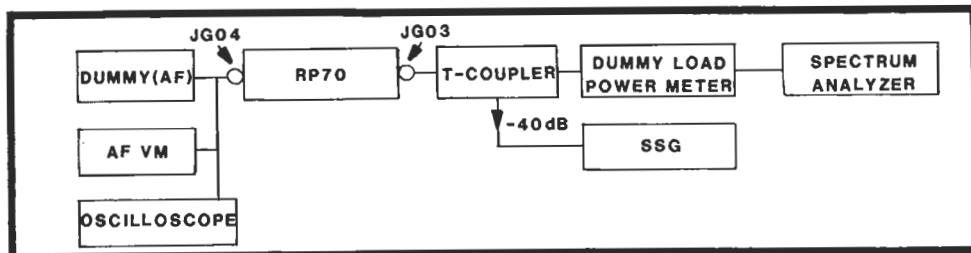

FIGURE 13. DUPLEXER TEST SETUP
23. Connect the Duplexer cable between J101 (RX) and JB02 (TX).
24. Connect the measurement equipment as shown in Figure 13.
2. Remove the plugs from the duplexer which is connected to the RX jack (J101) and to the booster output jack (JB02) (see Figure 13).